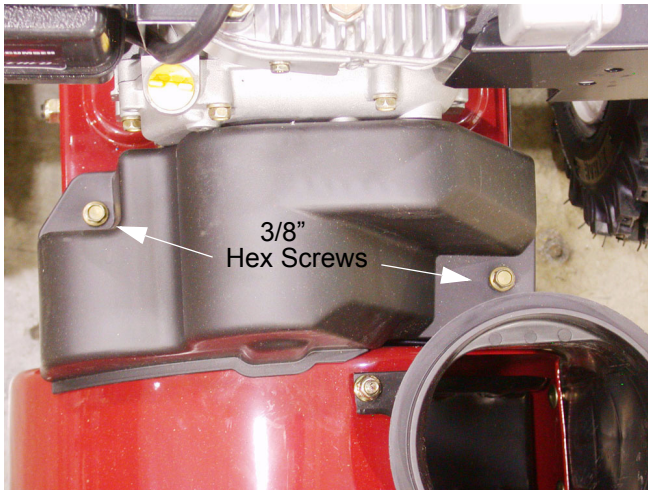

Figure 3.2
- 3.2. Remove the belt cover from between the auger housing and the engine with a 3/8" socket. See Figure 3.2.